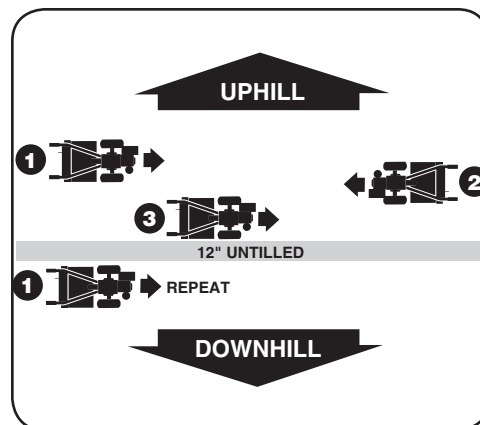

Figure 4-8
- To create a terrace, start at the top of the slope and work down. Go back and forth across the first row as shown in Figure 4-8.